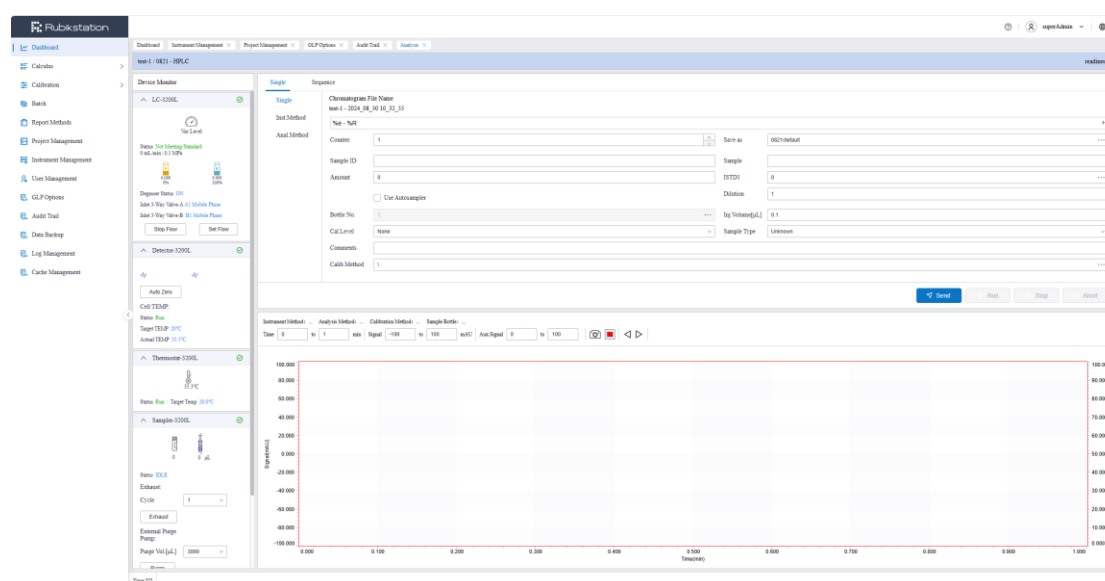

Figure 4-1 Single Analysis Dialogue Box
- 1) Click on "Single Setting" to display the Single Setting dialog box, as shown in Figure 4-1. Fill in relevant information such as spectrum name, sample ID, sample name, total amount, dilution, internal scalar, injection bottle number, injection volume, and whether to use an automatic sampler in the single analysis dialog box.